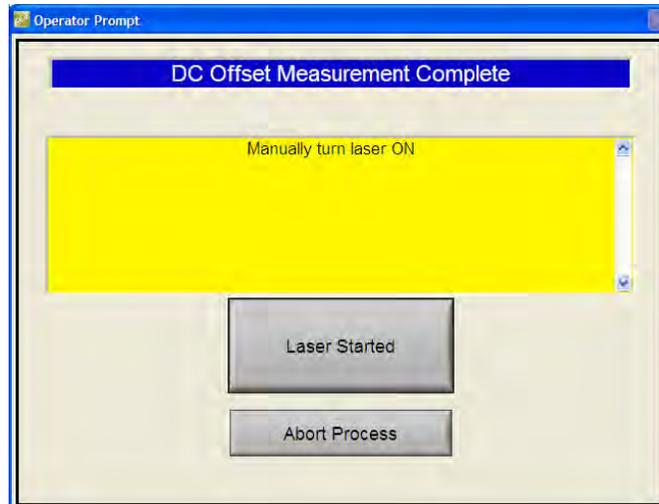

Figure 14 – DC Offset Measurement Complete Popup
11. After 8 seconds, a 'DC Offset Measurement Complete' popup display will appear (figure 14). Press the laser start push-button again and then select the 'Laser Started' button on the popup display. The popup display will close and the wait timer popup will appear again.